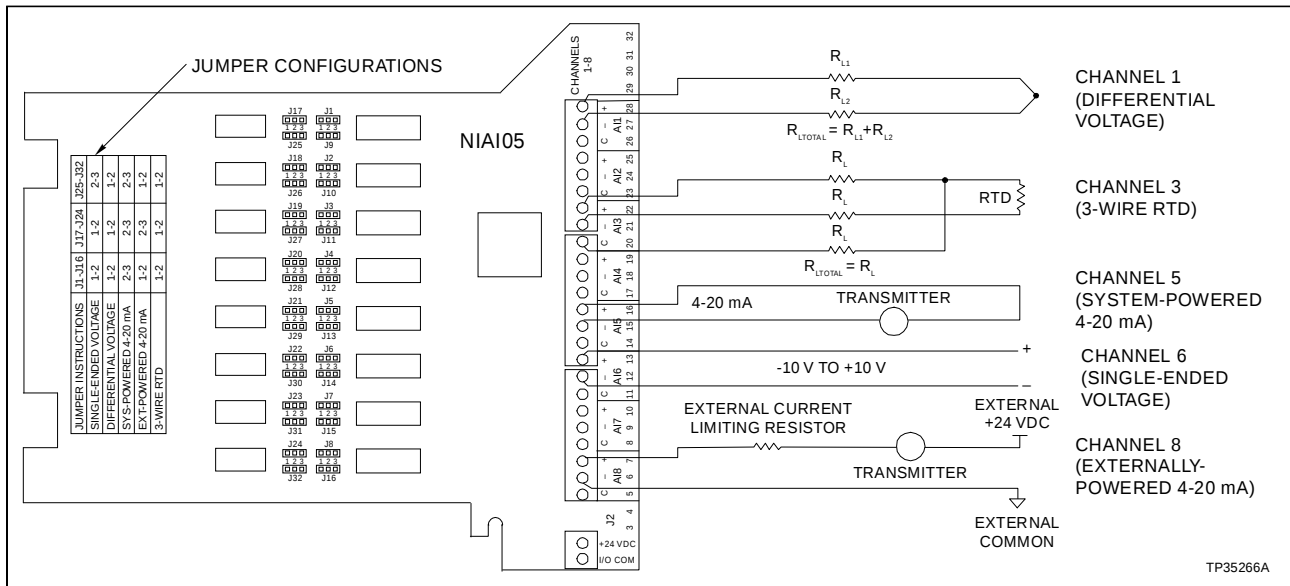
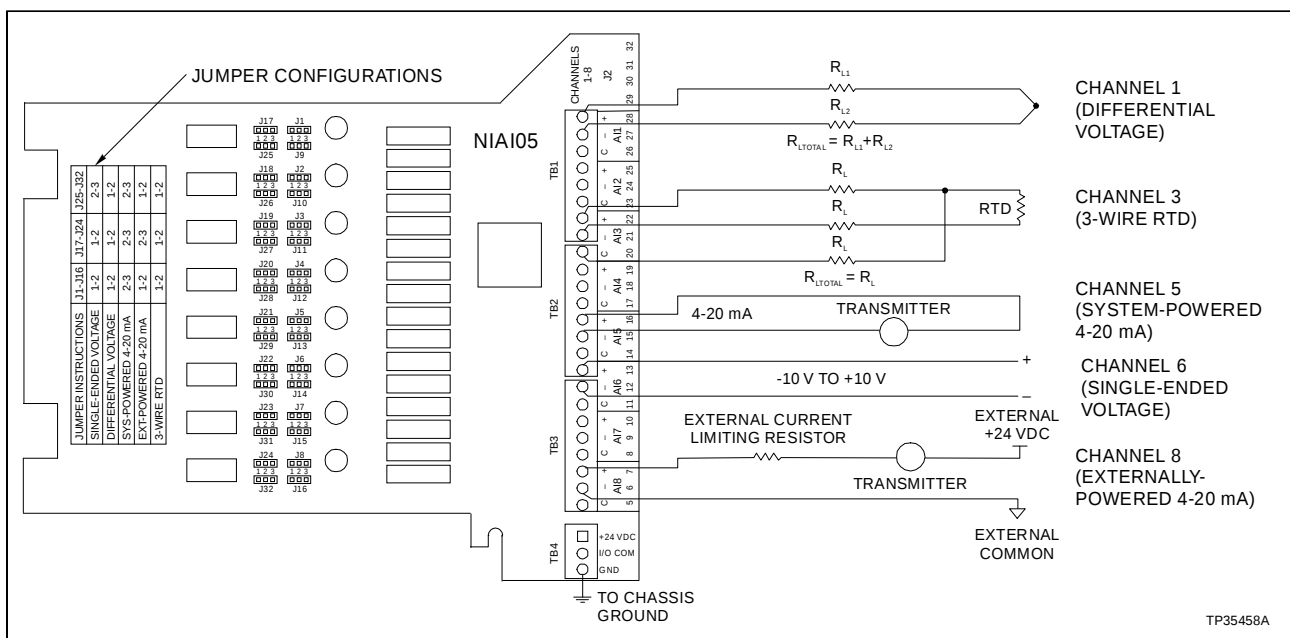

Figure A-7. Field Input Termination Examples for Revision A Hardware NIAI05
Figure A-8. Field Input Termination Examples for Revision B Hardware NIAI05
- Figure A-7 shows revision A hardware field input termination examples. Figure A-8 shows revision B hardware field input termination examples.